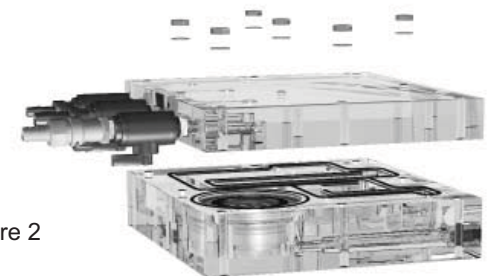

Figure 2
Step 7. Remove the remaining hardware from the flow cell. (Figure 2).